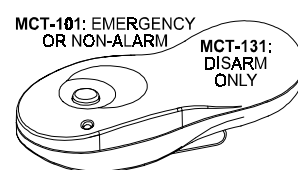

Figure 26. MCT-131 / 101
E. MCT-131 / MCT-101 (Fig. 26): Single-button units. The MCT-131 (CodeSecure) and the MCT-101 (PowerCode) can be enrolled to perform functions as shown. Both units look alike.